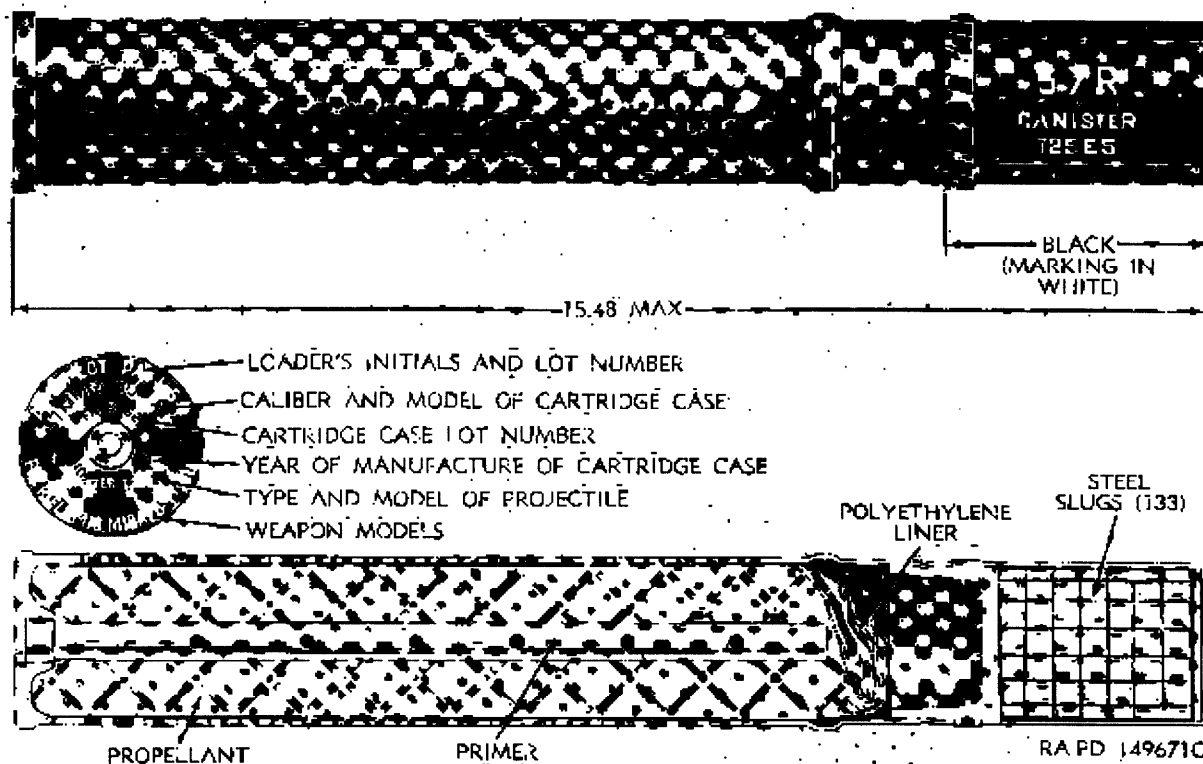

Figure 4. Cartridge, 57 millimeter; canister, T2SE5.
*a. General.* This cartridge (fig. 4) is intended primarily for antipersonnel use at a close range. The plastic-lined cartridge case M30A1 or M30A1E1 is crimped to the canister projectile by means of four equally spaced ball-point crimps. The canister projectile consists of a relatively thin steel cylindrical body, which is soldered to a heavy steel base having